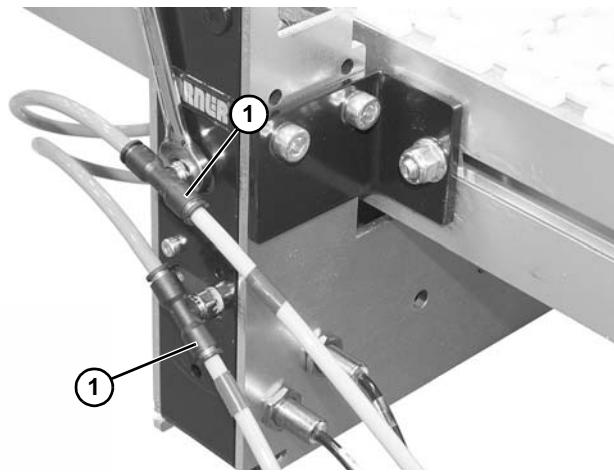

Figure 57
1. Remove fittings (**Figure 57, item 1**) on both sides of the lift and locate station.